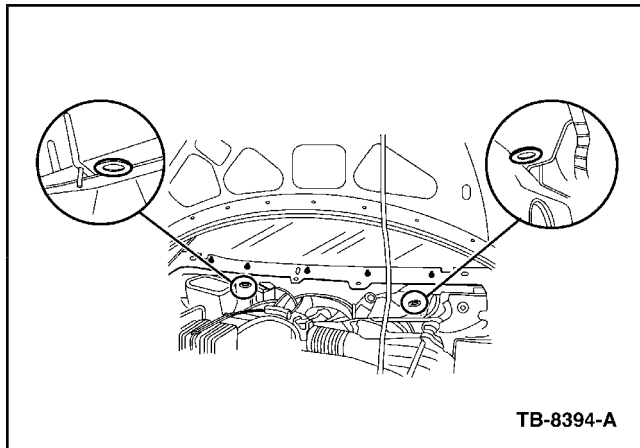

Figure 9 - Article 05-23-7
14. Remove and discard the two rubber plugs on the bottom of the cowl sheet metal (Figure 9).